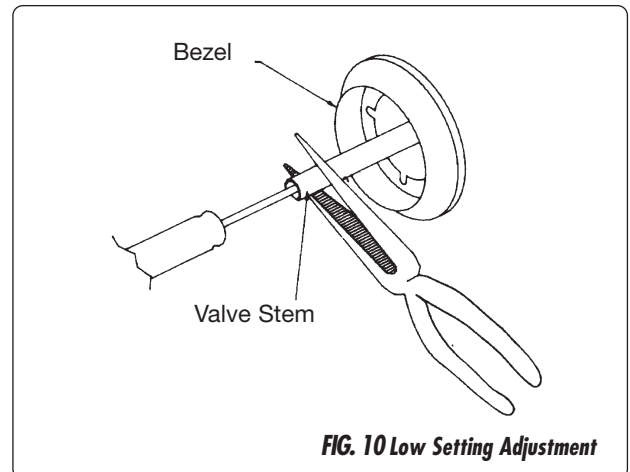

FIG. 10 Low Setting Adjustment
4. While holding the valve shaft with pliers, insert a thin, flat tipped screwdriver into the shaft and while viewing the burner adjust to a minimum stable flame (Fig. 10).